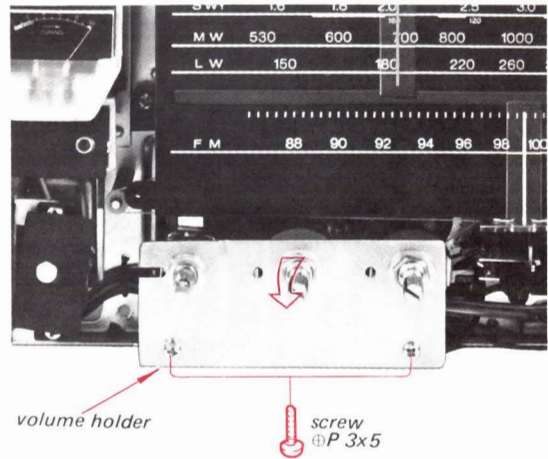

Fig. 2-21
3. Remove the volume holder by removing the two screws as shown in Fig. 2-21.